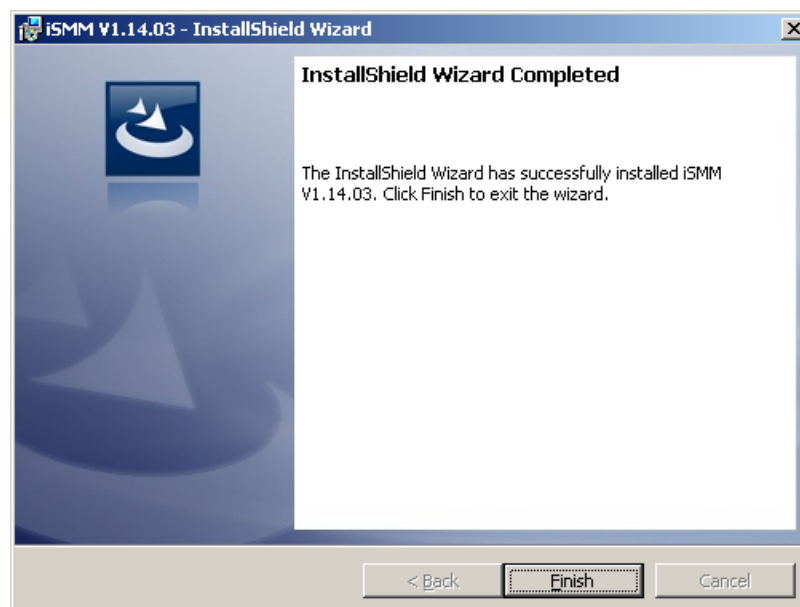

Figure 6-44: InstallShield Wizard Completed
Step 12: After the driver installation process is complete, a confirmation screen appears (Figure 6-44).